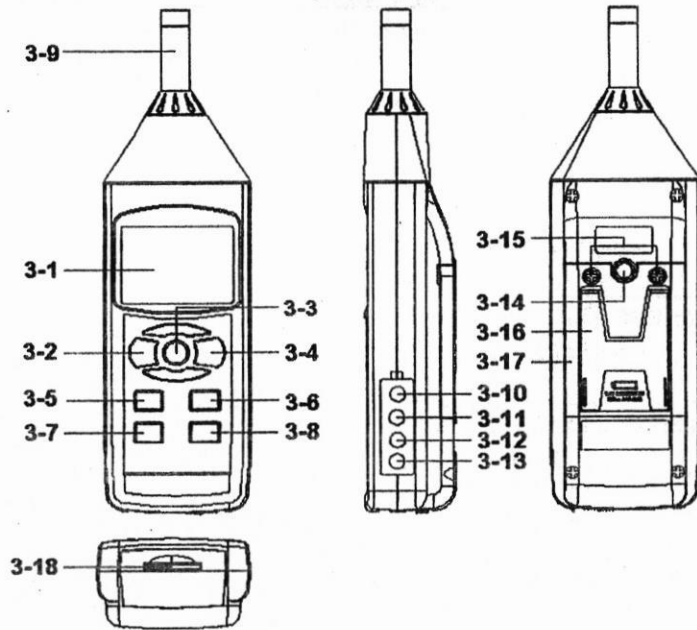

Fig. 1
- 1) Power on by pressing the " Power On/Off Button " ( 3-2, Fig. 1 ) , the meter's default function is " Auto range " , " A frequency weighting " & " Fast time weighting ". The LCD display will show the unit " A. Fast Auto " .
- 2) Select " A " or " C " frequency weighting by pressing the " A/C Button " ( 3-6, Fig. 1 ) .
- 3) Determine proper measuring range by pressing the " Range Button " ( 3-5, Fig. 1 ) . After power on the default range is " Auto range " . In the same time the lower right display will show the text of " Auto " . Under the auto range, press the " Range Button " ( 3-5, Fig. 1 ) once step by step will enter to the manual range ( range 1, range 2, range 3 ) and auto range in sequence. There are still 3 manual ranges for your choice :
- 4) According to various measuring sound source, select the Time Weighting ( Fast or Slow ) by pressing the " Time Weighting Button " ( 3-7, Fig. 1 ).
During the measurement, press the " Hold Button " ( 3-3, Fig. 1 ) once will hold the measured value & the LCD will display a " HOLD " symbol.
- 1) The data record function records the maximum and minimum readings. Press the " REC Button " ( 3-4, Fig. 1 ) once to start the Data Record function and there will be a " REC " symbol on the display.
- a) Press the " REC Button " ( 3-4, Fig. 1 ) once, the " REC MAX " symbol along with the maximum value will appear on the display.
If intend to delete the maximum value, just press the " Hold Button " ( 3-3, Fig. 1 ) once, the display will show the " REC " symbol only & execute the memory function continuously.
- b) Press the " REC Button " ( 3-4, Fig. 1 ) again, the " REC MIN " symbol along with the minimum value will appear on the display.
If intend to delete the minimum value, just press the " Hold Button " ( 3-3, Fig. 1 ) once, the display will show the " REC " symbol only & execute the memory function continuously.
After power ON, the " LCD Backlight " will light automatically. During the measurement, press the " Backlight Button " ( 3-2, Fig. 1 ) once will turn OFF the " LCD Backlight ".
Prepare a " SD memory card " ( 1 GB to 16 GB, optional ), Insert the SD card into the " SD card socket " ( 3-18, Fig. 1 ).
Press the " REC Button ( 3-4, Fig. 1 ) once , the LCD will show the text " REC ", then press the " Logger Button " ( 3-8, Fig. 1 ), the " REC " will flashing, at the same time the measuring data along the time information will be saved into the memory circuit.
During execute the Datalogger function , if press the " Logger Button " ( 3-8, Fig. 1 ) once will pause the Datalogger function ( stop to save the measuring data into the memory circuit temporarily ). In the same time the text of " REC " will stop flashing.
*If press the " Logger Button " ( 3-8, Fig. 1 ) once again will execute the Datalogger again, the text of " REC " will flashing .*
During pause the Datalogger, press the " REC Button " ( 3-4, Fig. 1 ) continuously at least two seconds, the " REC " indicator will be disappeared and finish the Datalogger.
Press the " REC Button ( 3-4, Fig. 1 ) once , the LCD will show the text " REC ", then press the " Logger Button " ( 3-8, Fig. 1 ) once, the " REC " will flashing once , at the same time the measuring data along the time information and the Position no. will be saved into the memory circuit.
\* During execute the Manual Datalogger, press the " SET Button " ( 3-7, Fig. 1 ) once, then use the " ▲ Button " ( 3-5, Fig. 1 ) or " ▼ Button " ( 3-6, Fig. 1 ) to set the measuring position ( 1 to 99, for example room 1 to room 99 ) to identify the measurement location. After finish the adjustment location no., press the " Enter Button " to entry.
Press the " REC Button " ( 3-4, Fig. 1 ) continuously at least two seconds, the " REC " indication will be disappeared and finish the Datalogger.
During the measurement if press " Time check Button " ( 3-5, Fig. 1 ) > 2 seconds, the lower LCD display will present the time information of Year/Month, Date/Hour, Minute/Second.
During the measurement , If press " Sampling Check Button " ( 3-6, Fig. 1 ) > 2 seconds, the lower LCD display will present the Sampling time information in second unit.